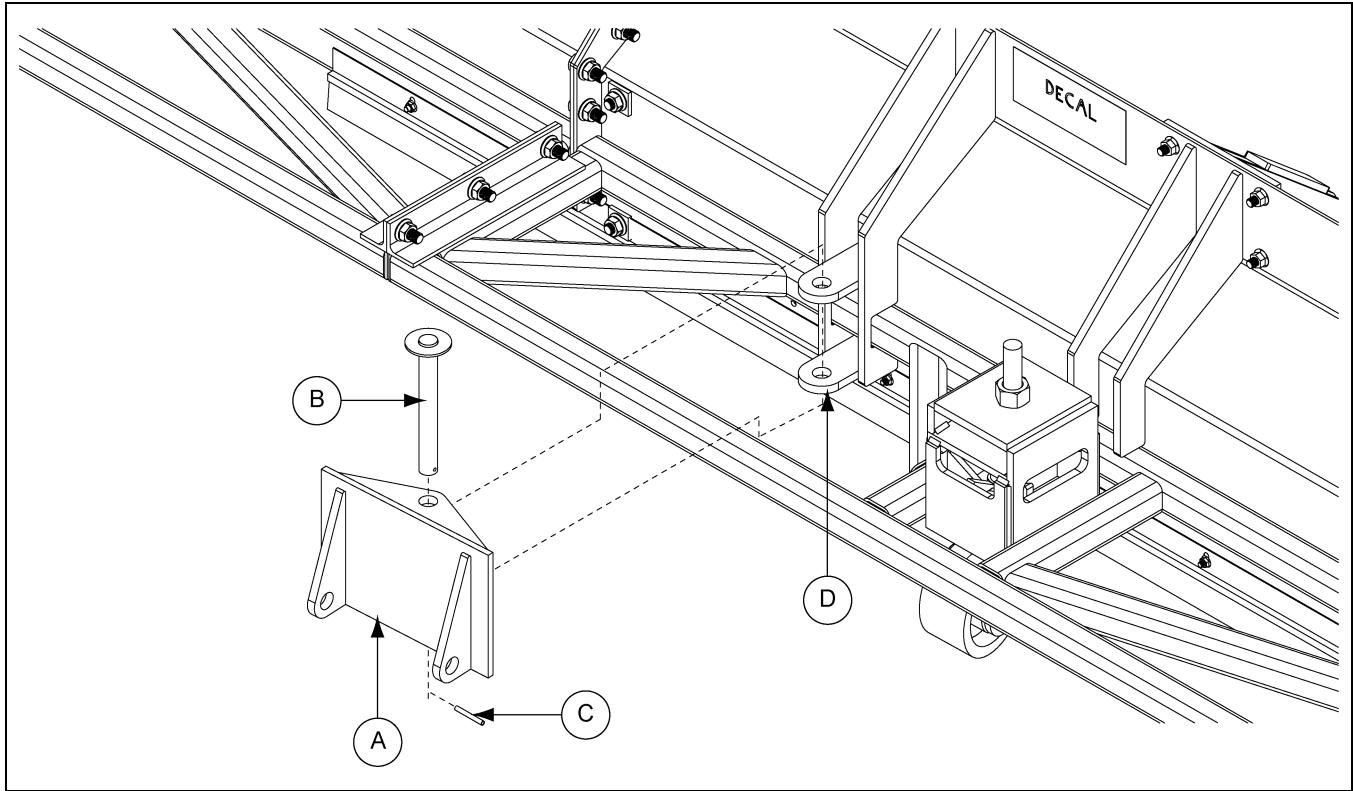

Figure 8A
1. Position the vertical/horizontal pivot plate (A) onto the sweep shield (D) as shown. *(See Figure 8A.)*
2. Align the holes on the vertical/horizontal pivot plate (A) with the sweep shield (D) and install the vertical pivot pin (B).
3. Locate the hole near the bottom of the vertical pivot pin (B) and install the slotted roll pin (C), securing the vertical/horizontal pivot plate (A) to the sweep shield (D).